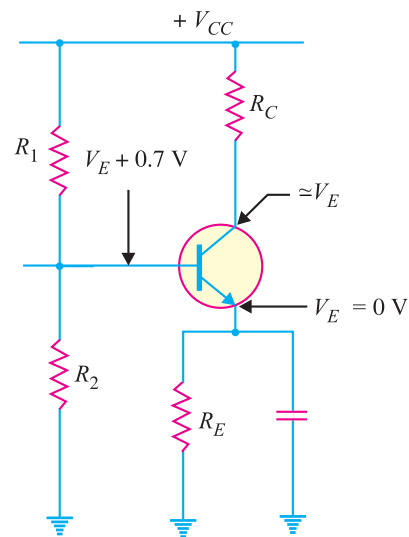

Fig. 9.53
10. What fault is indicated in Fig. 9.53 ? Give reasons for your answer. [R_C is open]